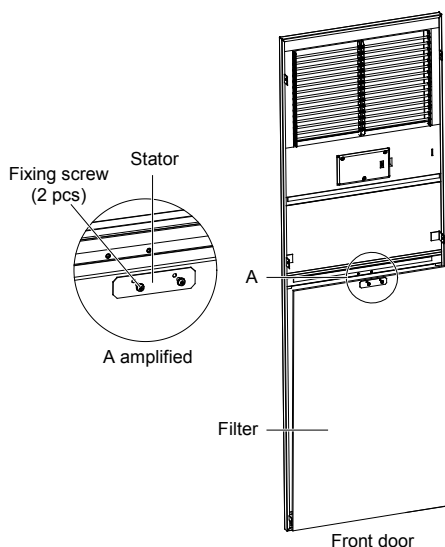

Figure 4-1
- Remove the filter stator to take out the filter on the front door, as depicted in Figure 4-1.